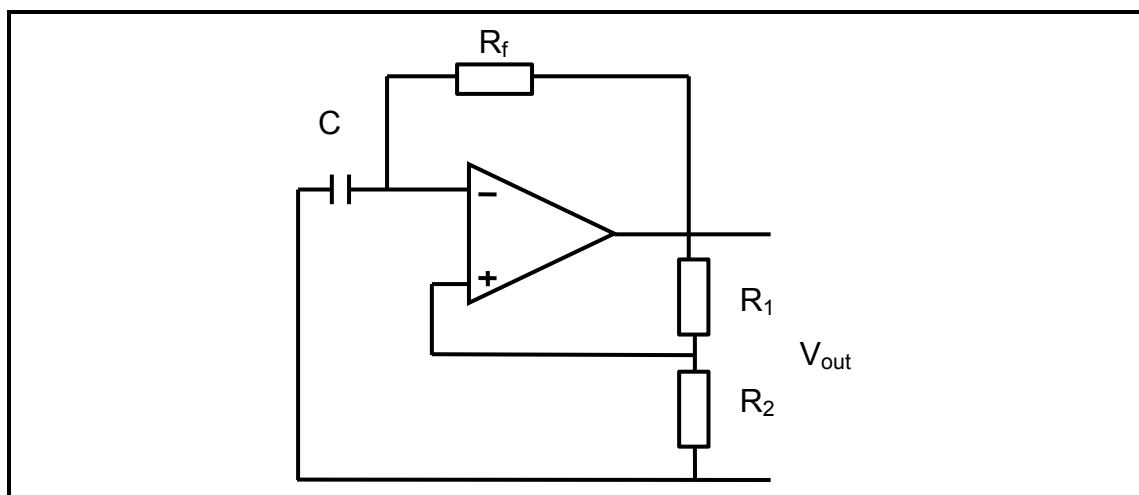

FIGURE 7.3: ASTABLE MULTIVIBRATOR
7.8 The circuit diagram in FIGURE 7.3 below is an op amp connected in the astable multivibrator configuration.